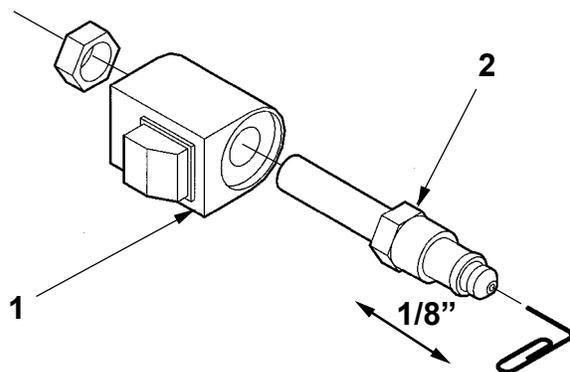

FIGURE 3
4. Check the Valve Stem by removing the Coil Assembly, (Item 1, Fig. 3). Unscrew the Valve Stem, (Item 2, Fig. 3), from the Pump. Push on the plunger that is located inside the Valve Stem by inserting a paper clip in the end. If the Plunger does not move freely approximately 1/8", replace the Valve Stem.